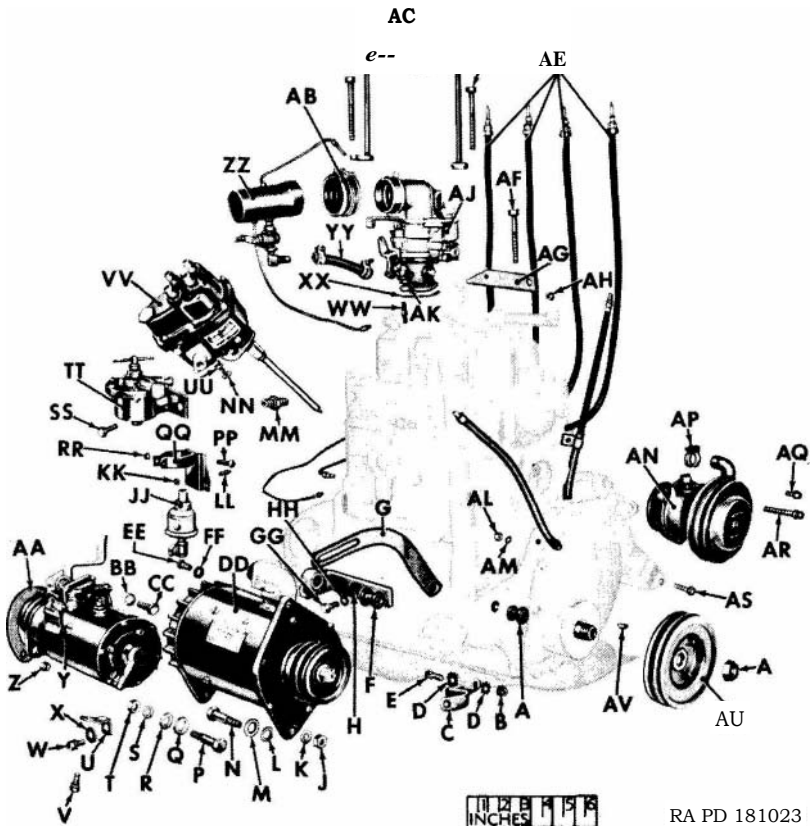

Figure 12. Engine accessory assemblies and mounting parts, brackets and fittings
a. A complete rebuild of the engine requires that the entire engine assembly be disassembled into its individual parts. Before beginning the actual disassembly of the engine, however, the accessory assemblies furnished as part of the engine assembly must be first removed. In figures 3, 4, 5, and 6, these accessory assemblies are shown in their assembled positions. Figures 12 and 13 show the accessory assemblies and their attaching parts and fittings disassembled from the engine.